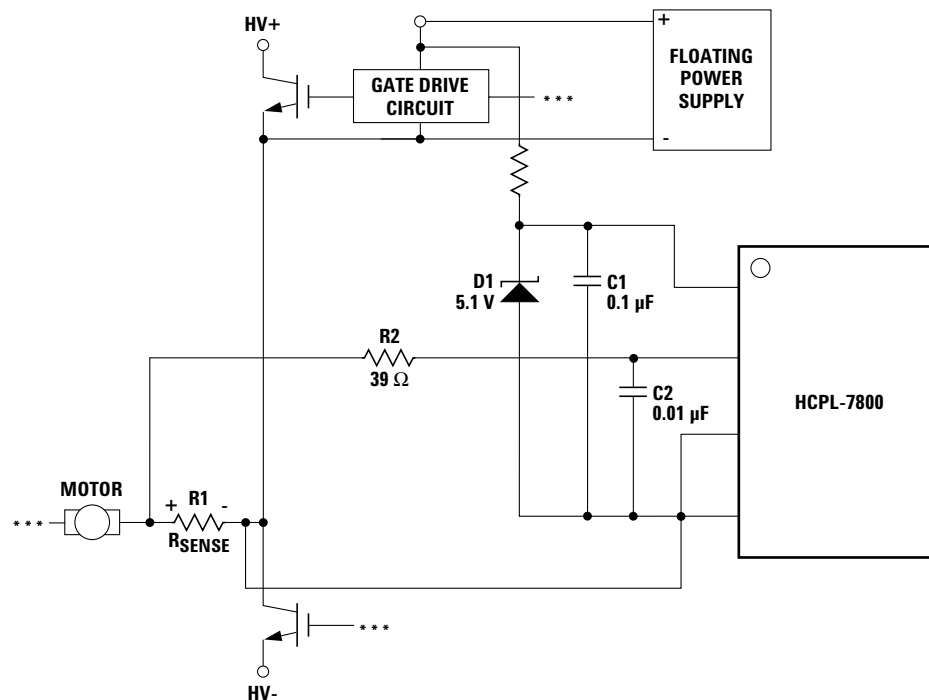

Figure 17. Recommended Supply and Sense Resistor Connections.
The recommended supply connections are shown in Figure 17. A floating power supply (which in many applications could be the same supply that is used to drive the high-side power transistor) is regulated to 5 V using a simple zener diode (D1); the value of resistor R4 should be chosen to supply sufficient current from the existing floating supply. The voltage from the current sensing resistor (Rsense) is applied to the input of the HCPL-7800(A) through an RC anti-aliasing filter (R2 and C2). Although the application circuit is relatively simple, a few recommendations should be followed to ensure optimal performance.